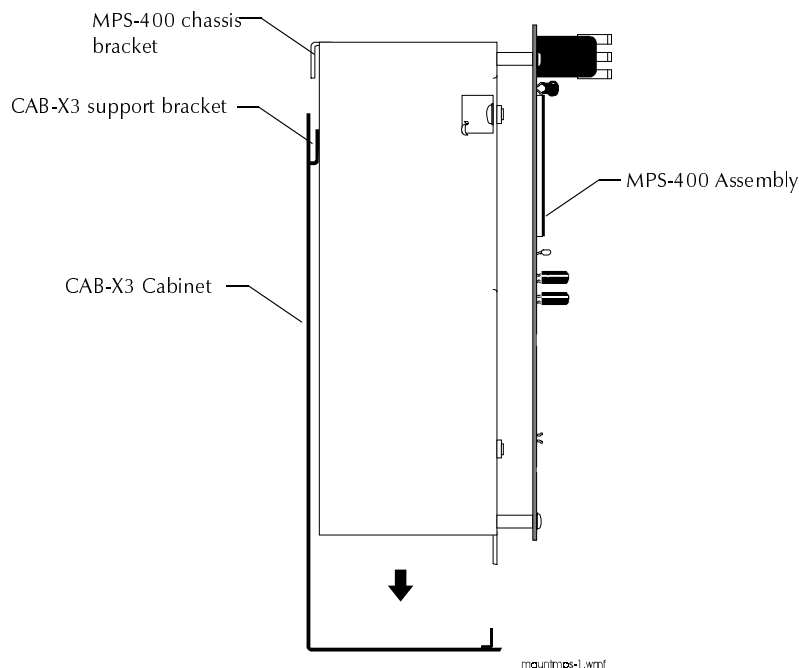
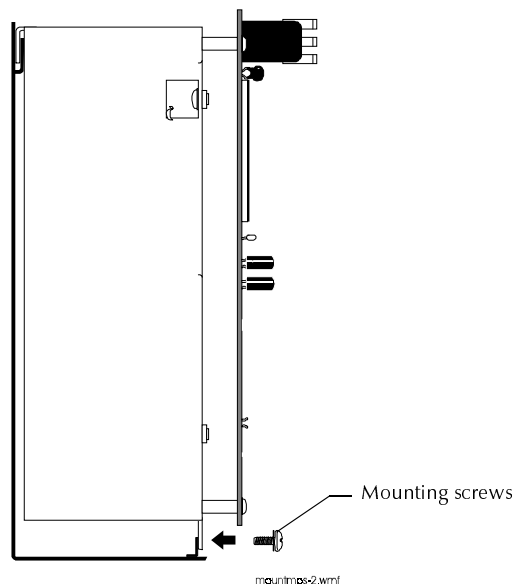
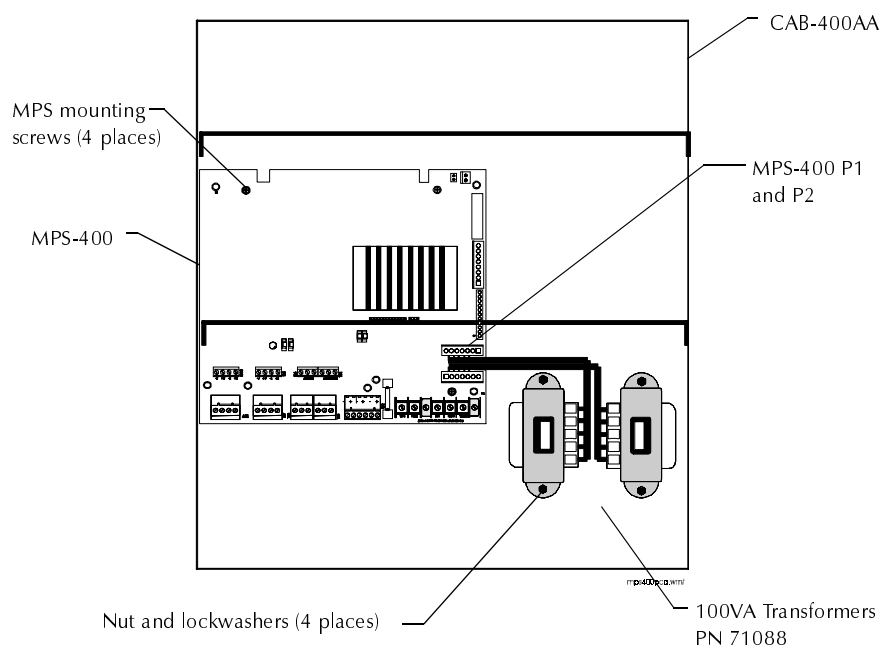

Figure 2-9 Placing an MPS-400 onto a Support Bracket
Figure 2-10 Mounting an MPS-400 into a CAB-X3
Figure 2-11 Mounting an MPS-400PCA into a CAB-400AA
This section contains instructions for mounting an MPS-400 into a CAB-X3 (Figure 2-9 and Figure 2-10) and for mounting an MPS-400 into a CAB-400AA (Figure 2-11).
1. Place the MPS-400 assembly into the cabinet so the MPS-400 chassis bracket engages the support bracket on the cabinet as shown in Figure 2-9:
2. Secure the bottom of the MPS-400 to the bottom cabinet support with the mounting screws as shown in Figure 2-10:
Figure 2-11 shows how to install an MPS-400PCA and two transformer assemblies into a CAB-400AA cabinet. To mount MPS-400PCA components, follow these steps:
Figure 2-11 shows how to mount an MPS-400 to a CAB-400AA cabinet: